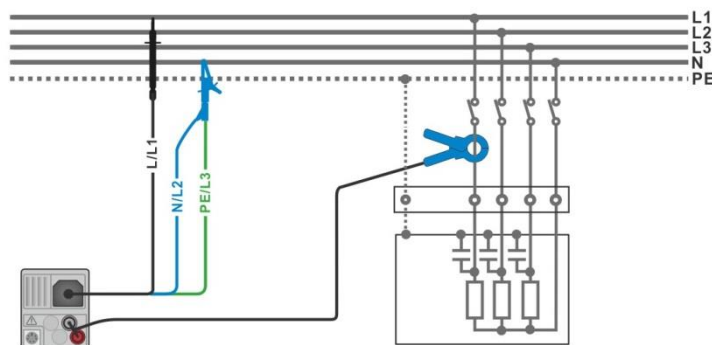

Figure 7.72: Harmonics measurement
- › Connect the voltage test leads and current clamp to the item to be tested, see **Figure 7.72**.